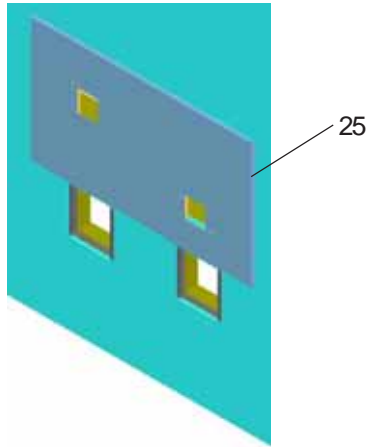

Figure 5 - Panel Installation
3. **Install back panel.** Place the upper edge of the panel above mounting plate on the wall. Slide the panel down until it engages the mounting plate. Be sure back panel is firmly engaged before releasing it. (See Figure 5)